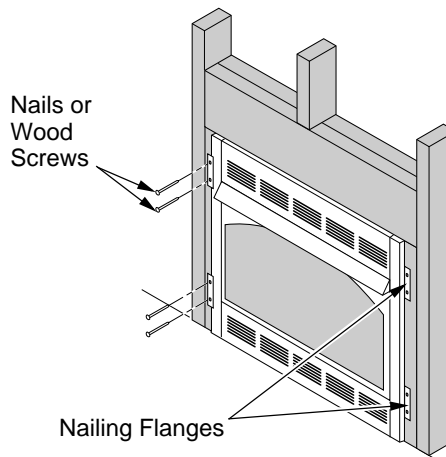

Figure 15 - Attaching Fireplace to Wall Studs (VYGF33PRB Shown)
8. Attach fireplace to wall studs using nails or wood screws through holes in nailing flange (see Figure 15).